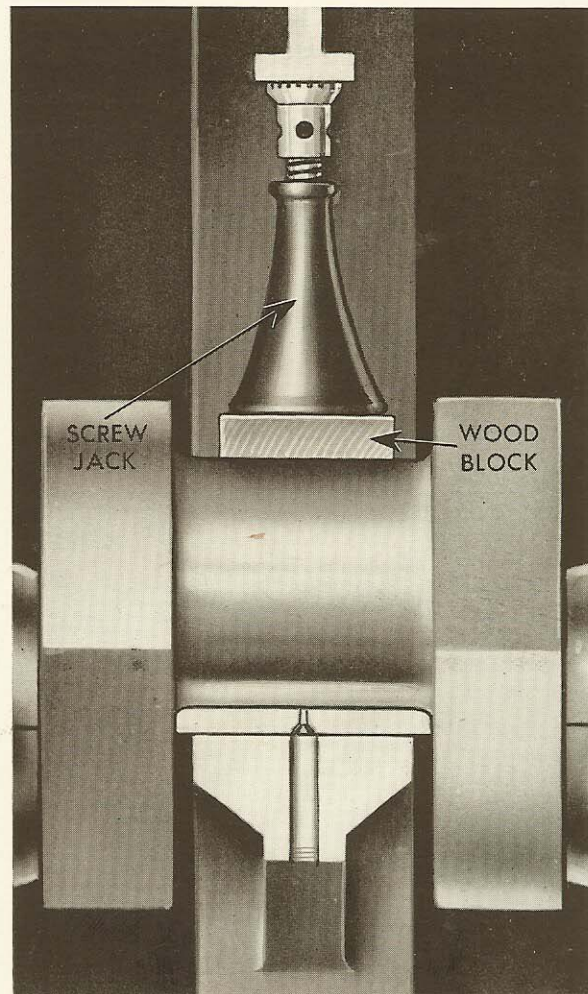

FIGURE 14-9
16. USE OF BRIDGE GAUGE TO CHECK THE ALIGNMENT OF REPLACEMENT SHELL: As an example, we will assume that No. 4 main bearing has been replaced and fitted. With No. 4 bottom shell out, install a jack as shown in Figure 14-9, on No. 3 journal.